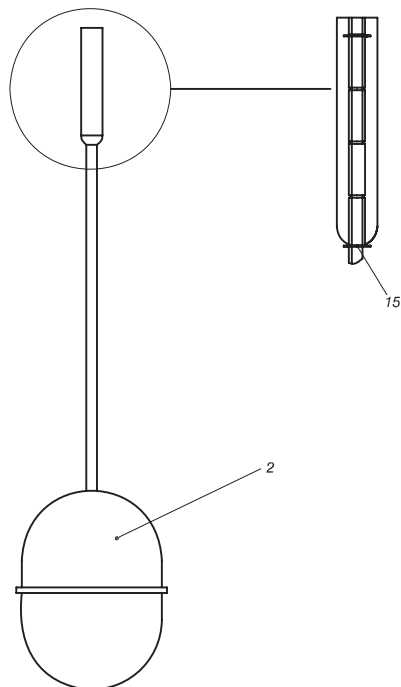

FIG.3
4. Shut –off valves should be mounted as close as possible to the float for service (fig. 1 & fig. 3)
9. Remove the complete float assembly (fig.2 , pos 2) and (fig.3, pos. 2) from the 38SFS body (fig.2, pos.1)